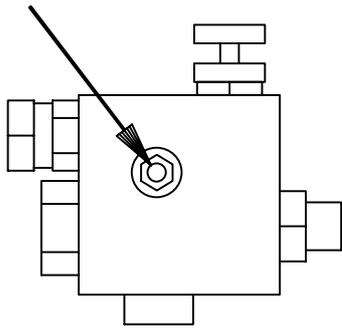

Fig. 60
- c. Loosen locknut for the relief valve screw (fig. 60), and unscrew *on* return.
- e. Adjust relief valve screw (fig. 60) until pressure gauge shows 110 bar.